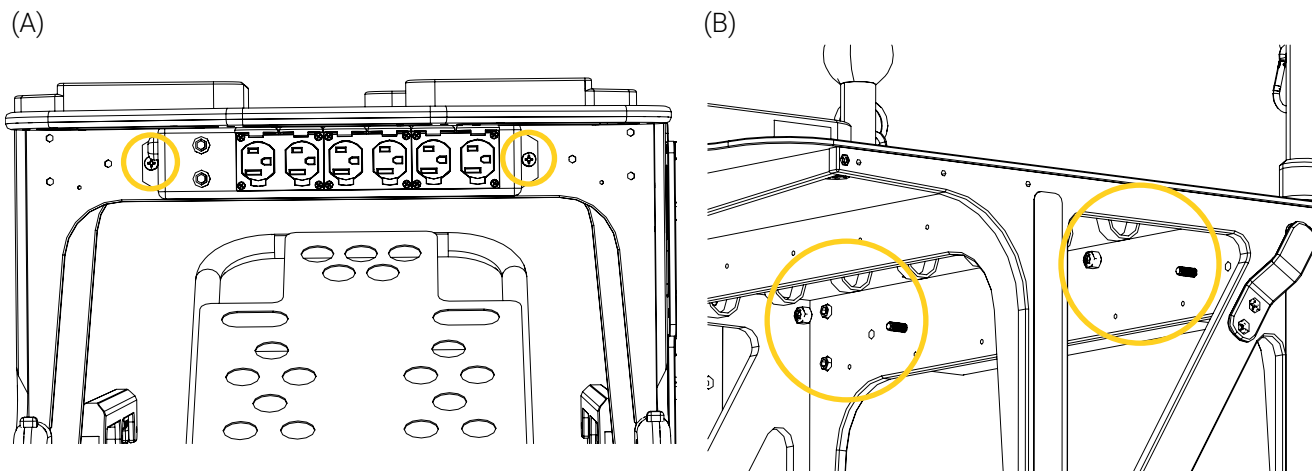

Figure 57: Removal of the nuts
2. Remove the two (2) nuts using a $\frac{7}{16}$ in. wrench (Figure 57). Set aside the nuts temporarily, leaving in place the two (2) $\frac{1}{4}$ - 20 x 1 in. screws and power bar on the mobile structure.